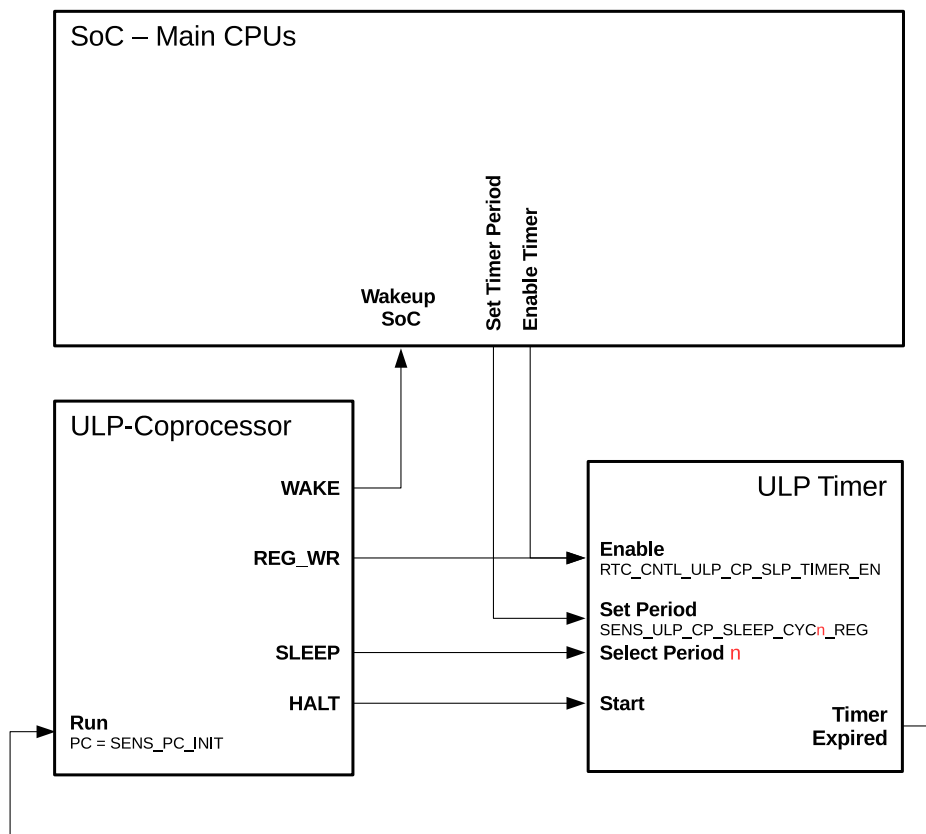

Figure 30-19. Control of ULP Program Execution
Once the timer expires, the ULP coprocessor is powered up and runs a program with the program counter (PC) which is stored in register `SENS_PC_INIT`. The relationship between the described signals and registers is shown in Figure 30-19.